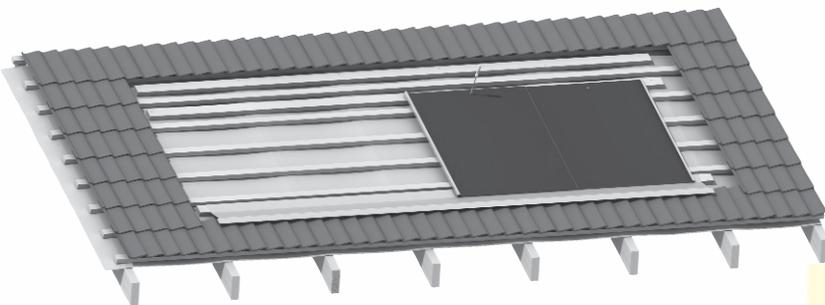

Figure 58b: Installation of Second Tray
Fit first left hand (LH) half base tray (10-A), hooking the downwards facing return fold into the corresponding fold on the fixed RH half base tray. Position LH half base tray with lower edge along the fold line of the bottom flashing. Fix to middle batten using one of the self-drilling sealing screws provided in the installation kit at the centre of the upper edge – see Figure 58b.